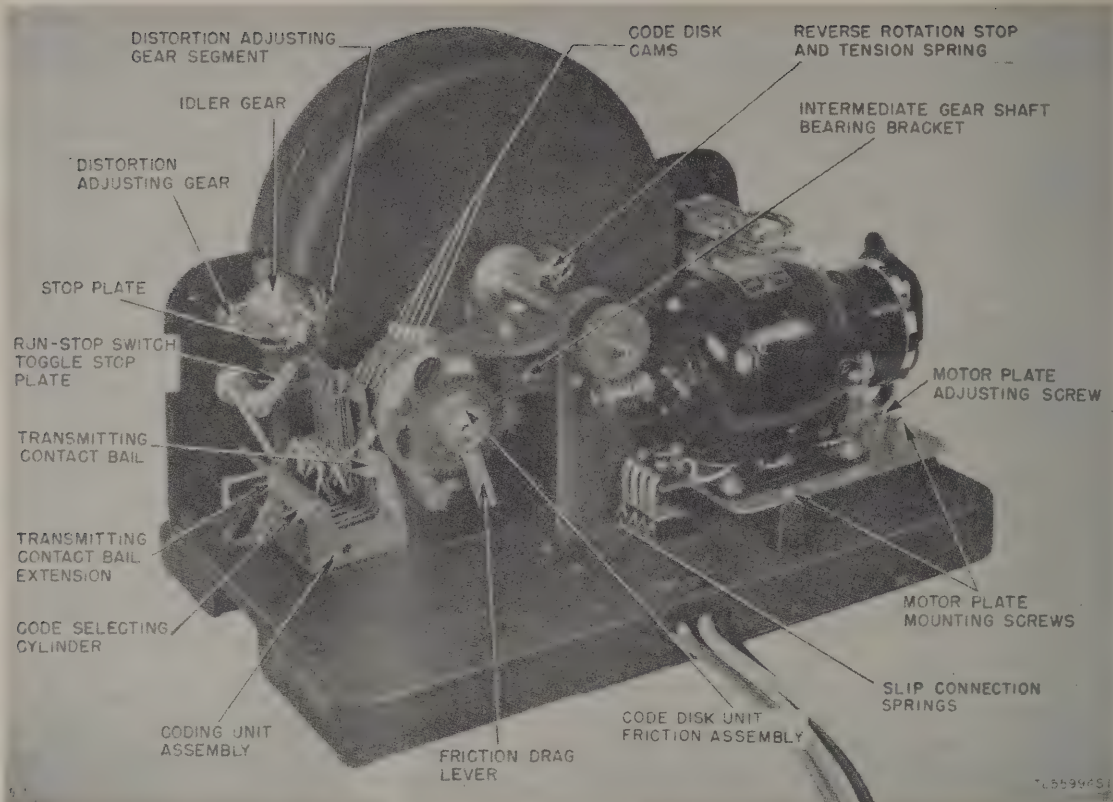

Figure 21. Distortion Test Set TS-383/GG, left rear view, cover removed.
81. Intermediate Gear Shaft Bearing Bracket (figs. 21 and 22)
82. Distortion Adjusting Gear Segment (fig. 21)
a. **REQUIREMENTS.** (1) With first one and then the other distortion adjusting idler gear stud against the stop plate, the teeth of this gear should mesh with its associated gear segment so that the mesh is equalized (within one tooth) between the extreme limits of travel of the gear segment.
(2) Adjustment. Loosen the coding unit mounting screws. The heads of these screws can be reached only from underneath the base. Position the coding unit (fig. 21) and tighten the mounting screws.
89. Run-Stop Switch Toggle Stop Plate Spring (figs. 21 and 22)
90. Transmitting Contact Bail Spring (fig. 21)
91. Code Disk Shaft (fig. 21)
92. Code Disk Phasing (figs. 21 and 25)
93. Code Disk Unit Friction Assembly (fig. 21)
95. Outer Ring Brake Torsion Spring (fig. 21)